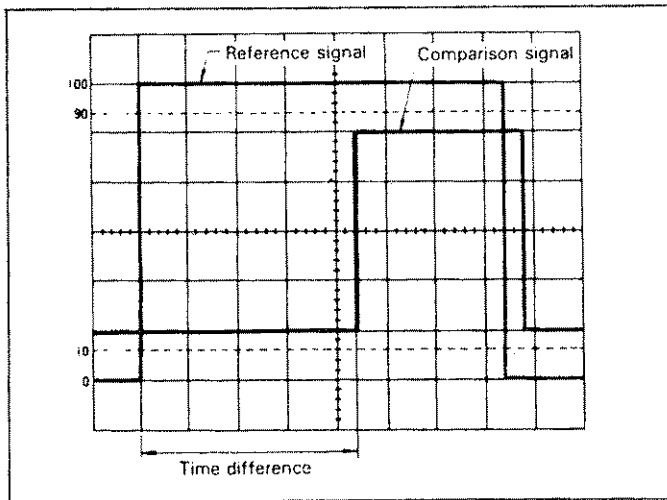

Fig. 14. Time Difference Measurement.
(Refer to Fig. 14)
1. Apply the two signals to the CH 1 (X) and CH 2 (Y) input jacks.
3. Use the  $\uparrow \downarrow$  position controls to superimpose both waveforms to intersect the center horizontal graduation line as shown in Fig. 14. Use the  $\leftarrow \rightarrow$  position control to set the reference signal coincident with one of the vertical graduation lines.
For the example shown in Fig. 14, the horizontal distance measured is 4.4 divisions. If the sweep **TIME/DIV** is 0.2 ms and **X10 Mag** is not used, the time difference is calculated as follows: